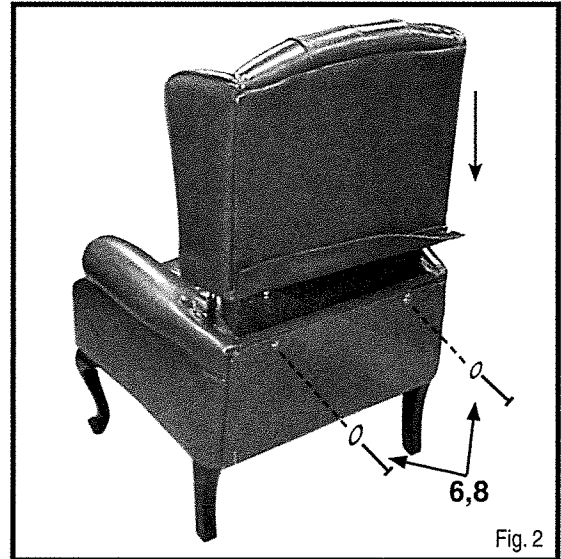

Fig. 2
STEP 4 Slip Back Cushion (4) over metal brackets of Seat Cushion (3) and fully push down. Peel back vinyl overlap on rear of Back Cushion (4) and attach Back Cushion (4) to Seat Cushion (3) using two Long Screws (6) and two Washers (8). (See Fig. 2) When finished reattach vinyl.